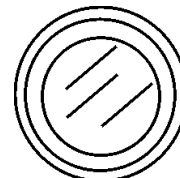

Figure 41. Pre-Heat Lamp
3. Depending on the temperature of the coolant (cold weather conditions), the pre-heat lamp (Figure 41) will light (ON) and remain on until the pre-heating cycle has been completed. After completion of the pre-heating cycle, the light will go OFF and the engine will start up automatically.